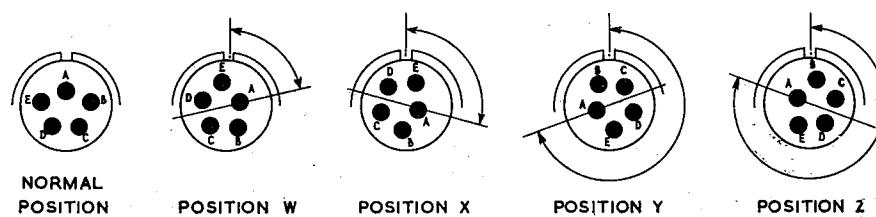

Fig. 3 Insert orientation
6. To avoid cross connection where similar connectors are mounted adjacent to each other, provision is made to assemble the insert in one of a number of positions relative to the normal position as shown in fig. 3. The angle of the various positions of the insert varies with the size of shell and the number of contacts. Full details are given in Table 3.
**(see fig. 3 and fig. 5)**